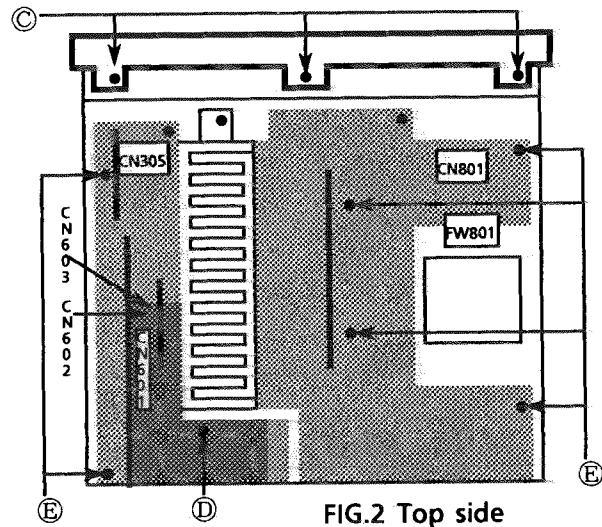

FIG.2 Top side
2. Remove 3 screws (K) on the bottom side and 3 screws (C) on the top side.(FIG.2,4)
2. Remove 5 screws (D) and (F).(FIG.2,3)
4. Remove 6 screws (E).(FIG.2)